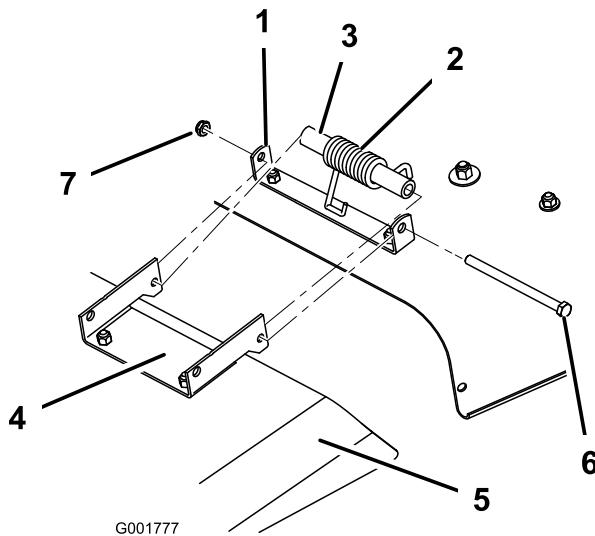

Figure 50
1. Remove the locknut, bolt, spacer, and spring holding the deflector to the mower brackets (Figure 50). Remove the damaged or worn grass deflector.
2. Align the grass deflector with the holes in the brackets and the spring and spacer straight ends in the space between the brackets and above the deflector (Figure 50).
3. Place the spring and spacer so that the hooked ends of the spring are pointing down, with one end contacting on the mower deck and the other over the deflector (Figure 50).